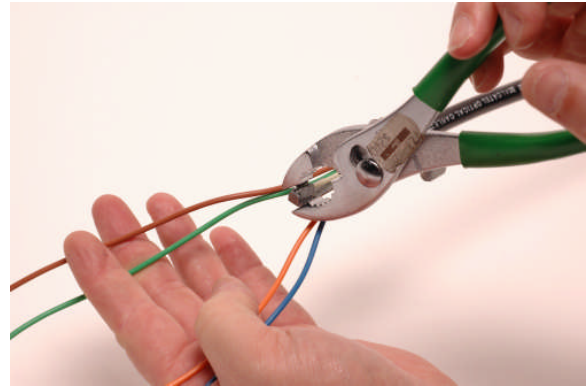

Figure 9
7.1 Strain Relief Installation *Refer to Figure 9*